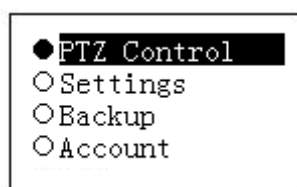

Figure 2-13
- User: The user has the PTZ control, system setup, backup, advanced setup and etc. Move the cursor to the corresponding item and then use the joystick to move the left/right to turn ○ to ● to enable this function. See Figure 2-13.